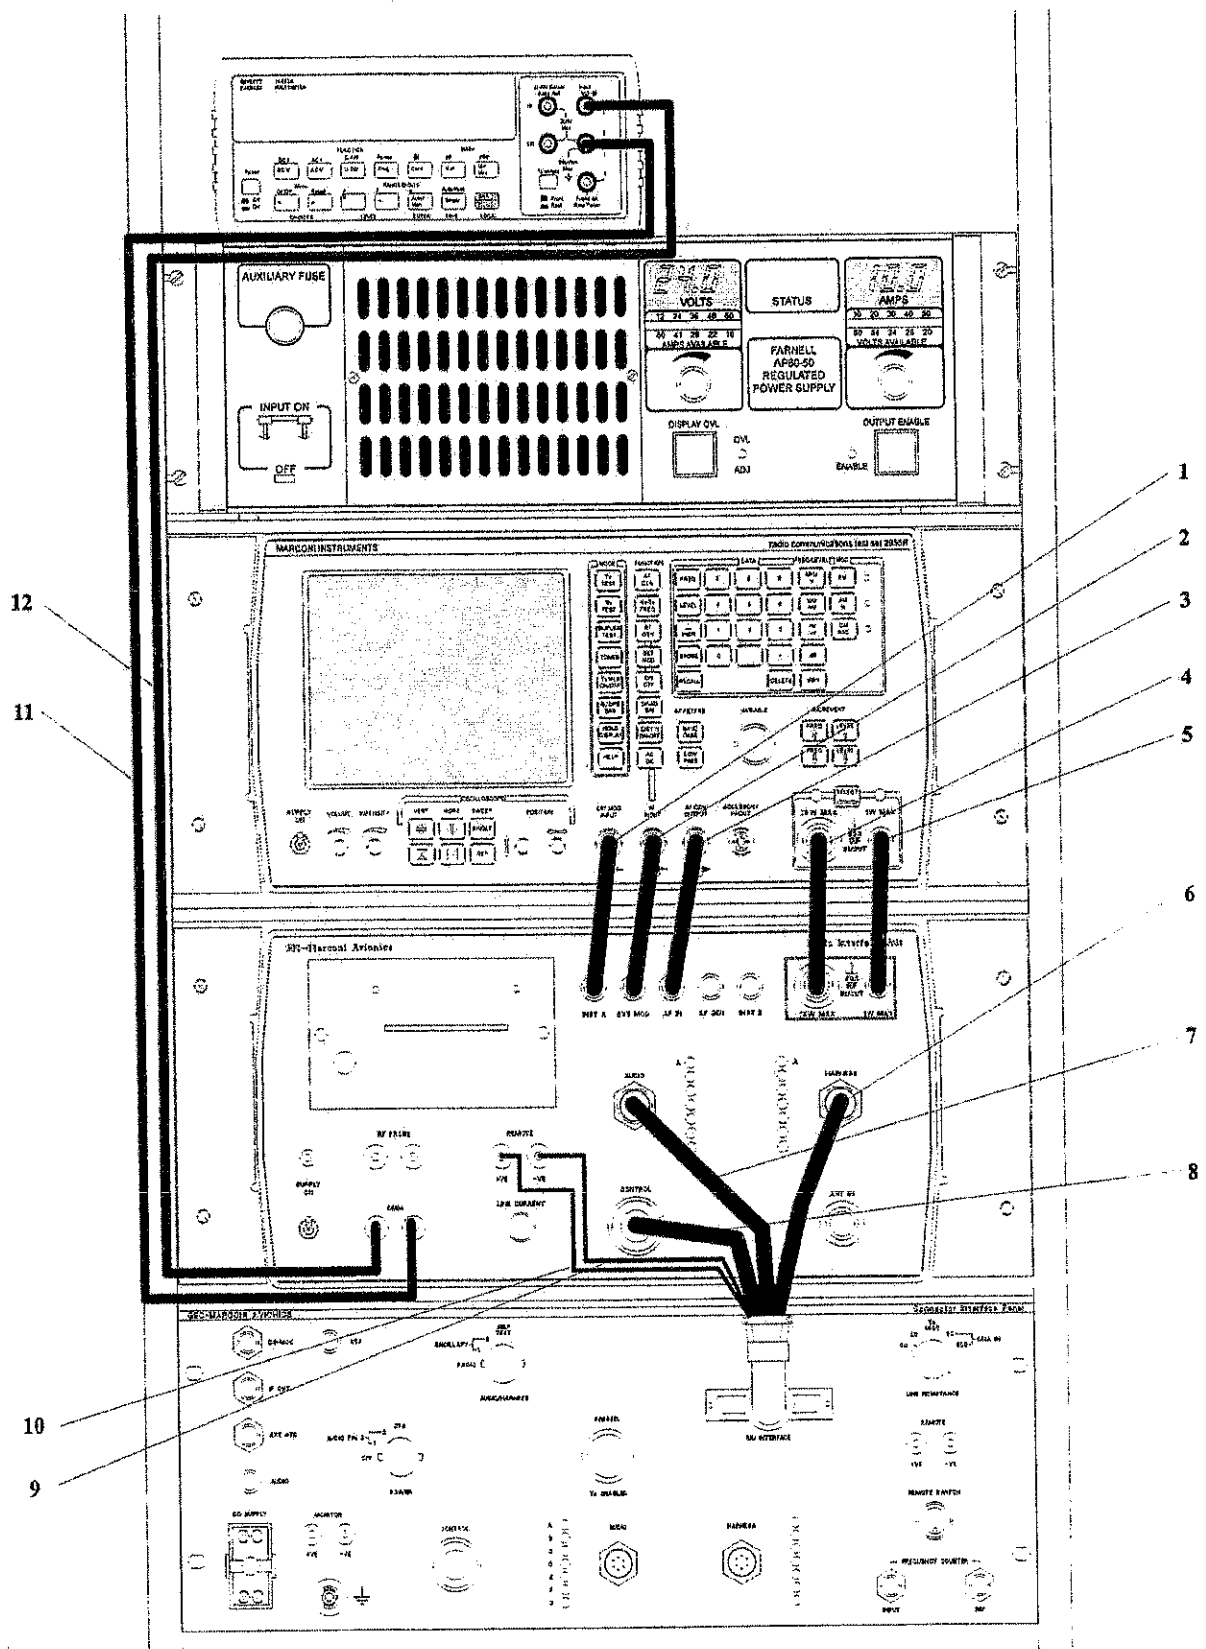

Fig 2 System Equipment Interconnections - Front
4 Details on the system cable/connector type and interconnection between the units and Connector Interface Panel are given in Table 1 (for front panel connections) and Table 2 (for rear panel connections). Front and rear panel connections are shown in Fig 2 and Fig 3 respectively.
- (3) Rear cable item Nos 6, 7, and 8 are to be connected to the Digital Multimeter front panel (Fig 2) when instructed via the 2955B screen during automatic tests.